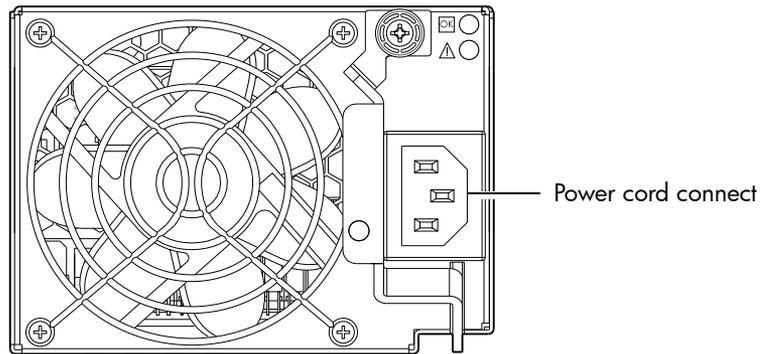
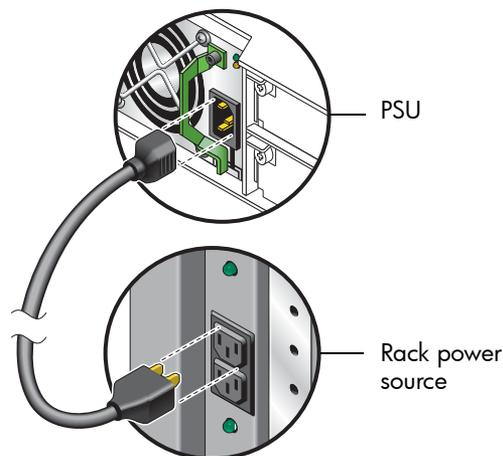
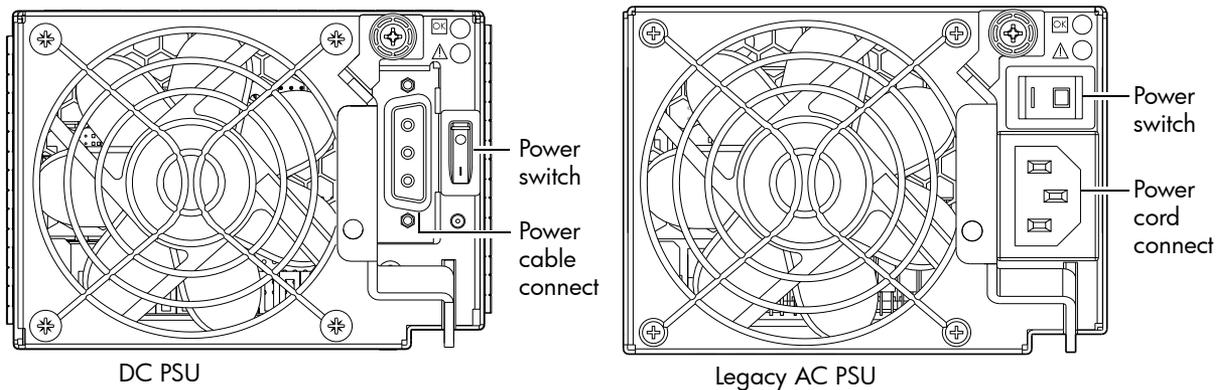

Figure 12 AC PSU
Figure 13 AC power cord
Figure 14 DC and AC PSUs with power switch
1. Plug the power cord into the power cord connector on the rear of the drive enclosure. Plug the other end of the power cord into the rack power source (see Figure 12 and Figure 13). Wait several seconds to allow the disks to spin up.
2. Plug the power cord into the power cord connector on the rear of the controller enclosure. Plug the other end of the power cord into the rack power source (see Figure 12 and Figure 13).
See Figure 13 and Figure 14 (right) when performing the following steps:
See Figure 15 and Figure 14 (left) when performing the following steps: